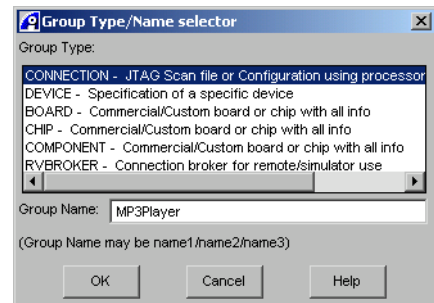

Figure 3-22 Creating a new connection
5. Use the Group Type/Name selector dialog box, shown in Figure 3-22, to name the new connection. For this example, enter MP3Player.